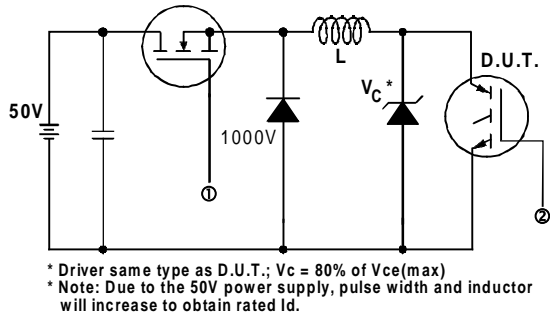

Fig. 13a - Clamped Inductive Load Test Circuit
- ② $V_{CC} = 80\%(V_{CES}), V_{GE} = 20V, L = 10\mu H, R_G = 23\Omega$, (See Fig. 13a)
- ③ Repetitive rating; pulse width limited by maximum junction temperature.
- ④ Pulse width $\leq 80\mu s$; duty factor $\leq 0.1\%$.
- ⑤ Pulse width $5.0\mu s$, single shot.